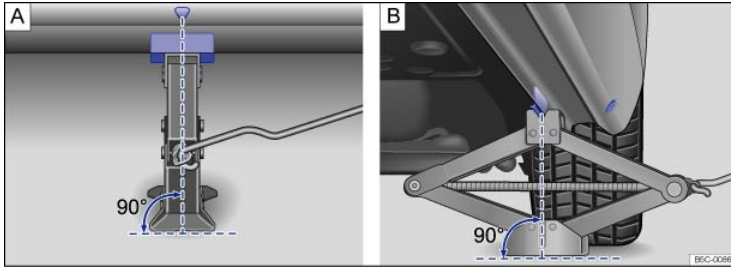

Fig. 225 Jack in position at the left rear lift point.
- Position the jack only at the described vehicle lift points. Before you raise your vehicle, always make sure the jack claw properly grips the vertical rib under the sill so that the jack does not slip off when you are raising the vehicle ⇒ Fig. 225.